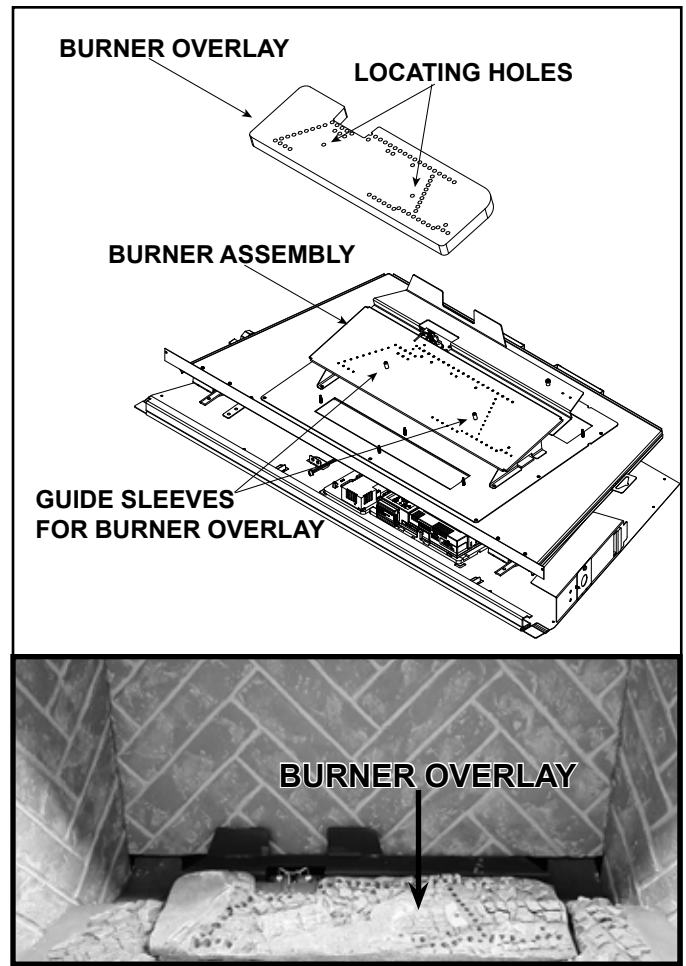

Figure 11.2 Burner Overlay Installed
3. To install the burner overlay, mate the locating holes with the guide sleeves. Install fiber burner top so that it makes full contact with the underlying burner assembly. See Figure 11.2.